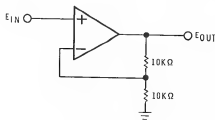

Figure 4-103
26. The circuit shown in Figure 4-103 is a/an:
26. C — The circuit shown in Figure 4-103 is a noninverting amplifier with a gain of 2.